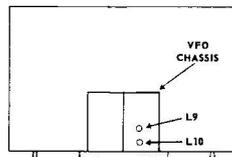

FIG. 2. TOP VIEW OF POWER SUPPLY SECTION
- h. Adjust the slug of coil L10 (Refer to Fig. 2 for location) for maximum drive to the oscillator stage of the transmitter as determined by the maximum amount of oscillator plate current dip.
- j. Adjust the slug of coil L9 (Refer to Fig. 2 for location) for maximum drive to the oscillator stage as in step h.